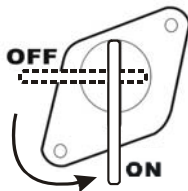

Figure 6- Fuel Valve in the “on” position
4. Turn the fuel valve to the “ON” position (see figure 6).